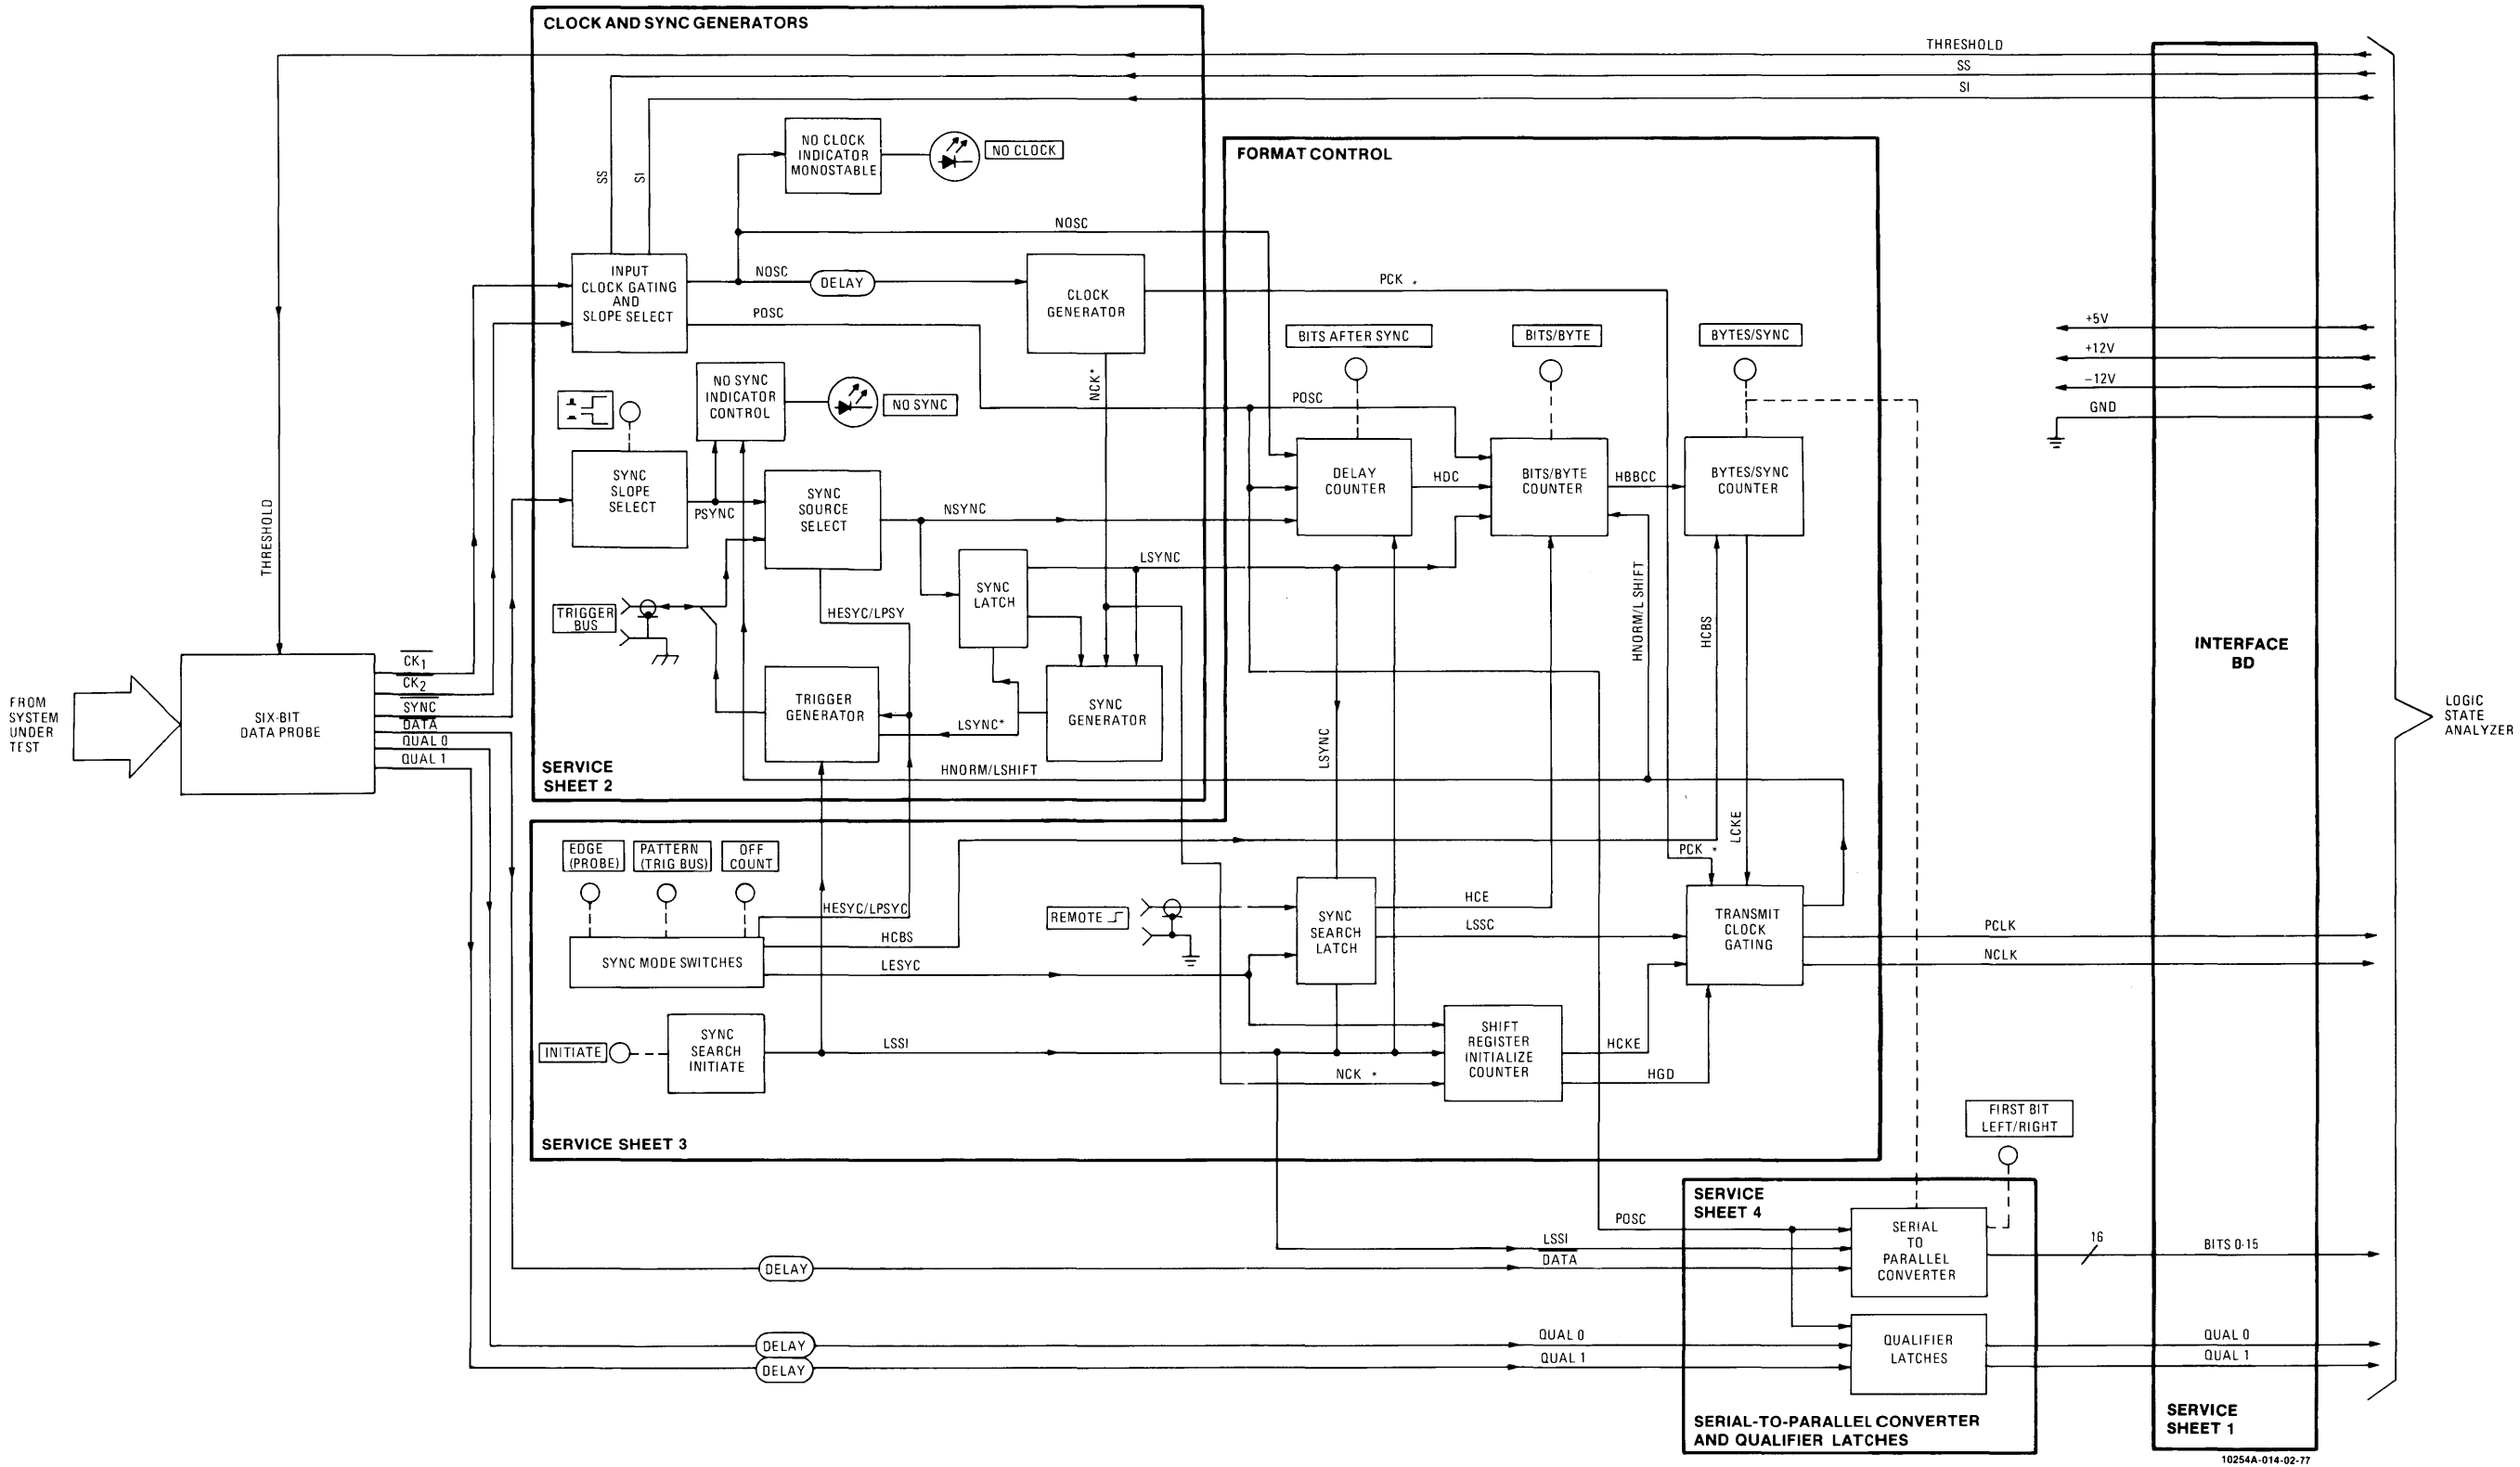

Figure 12.
62. A functional description of 10254A circuitry is provided with the instrument block diagram in figure 12. Basic circuit descriptions giving stage-by-stage coverage are provided on service sheets at the rear of this operating note. Logic conventions used to describe the theory of operation are defined in the following paragraphs.